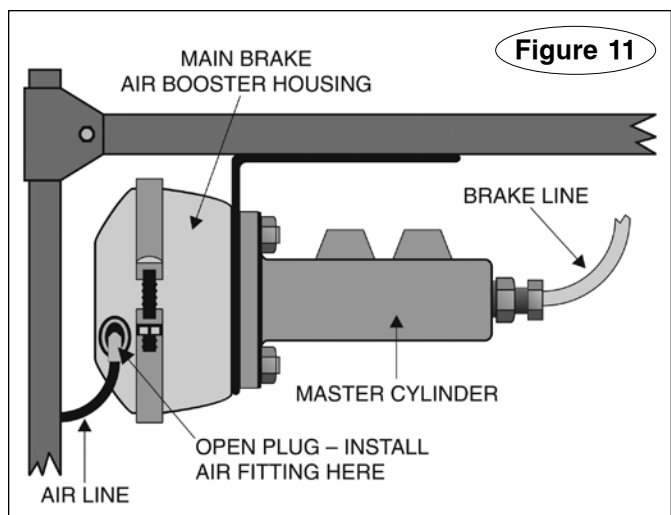

Figure 11
**If the motorhome has air over hydraulic brakes** – find the main brake air booster housing (Figure 11), which is typically located near the front axle. There should be an open plug (Figure 11) threaded into the air booster housing.